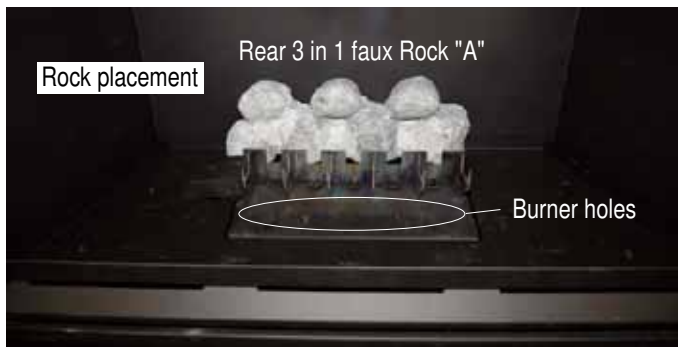

Figure 38b. Placement of Rear faux ceramic rock "A" (flat surfaces of rock on bottom pan of the fireplace). Note size and location of rock.
2. Install Rear faux "A" ceramic 3 in 1 Rock as shown in **Figure 38b**.